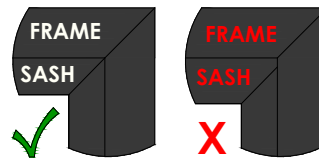

FIG. 6
- Check corners of the frame/sash at the lock side to make sure they are aligned on the lock side, adjust shims if necessary. **See FIG. 6**